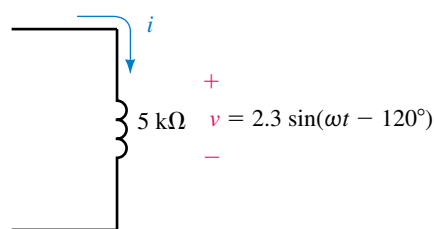

FIGURE 18-81
6. Repeat Problem 5 for the component shown in Figure 18-81.